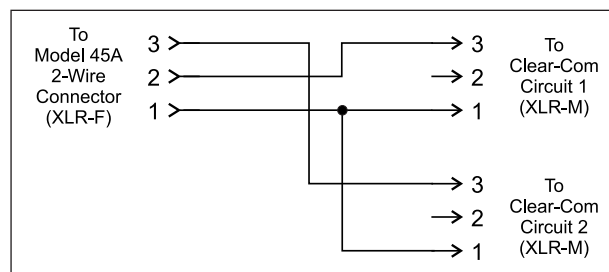

Figure 5. Adapter cable wiring diagram for Clear-Com single-channel party-line (PL) circuits
connection method is to create an adapter that "splits" Model 45A's 2-wire (PL) intercom connector into two 3-pin XLR connectors, one for each audio channel. The adapter should use one female and two male connectors. Pin 1 of a female 3-pin XLR intended to mate with the Model 45A will connect to pin 1 of both 3-pin male XLR connectors. Pin 2 of the female XLR will go to pin 3 of the male XLR designated as channel 1. Pin 3 of the female XLR will go to pin 3 of the male XLR designated as channel 2. Refer to Figure 5 for details.